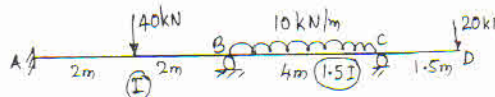

Fig Q2
- 2 Analyse a continuous beam shown in Fig Q2. Using slope deflection method. The support 'C' sinks by 10mm. Take $EI = 3000 \text{ kN} - \text{m}^2$. Draw BMD and elastic curve. (20 Marks)